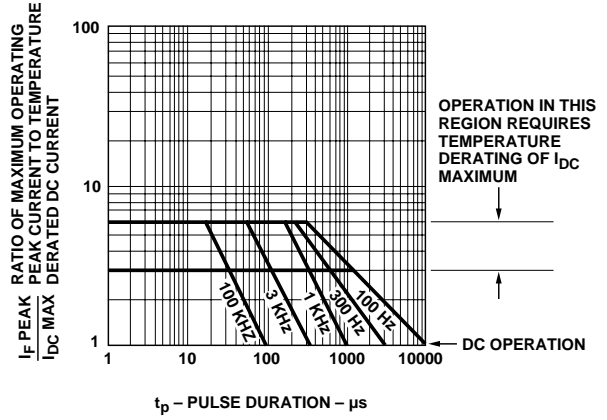

Figure 5. Maximum Tolerable Peak Current vs. Pulse Duration - Yellow.
5. See Figure 5 to establish pulsed conditions.